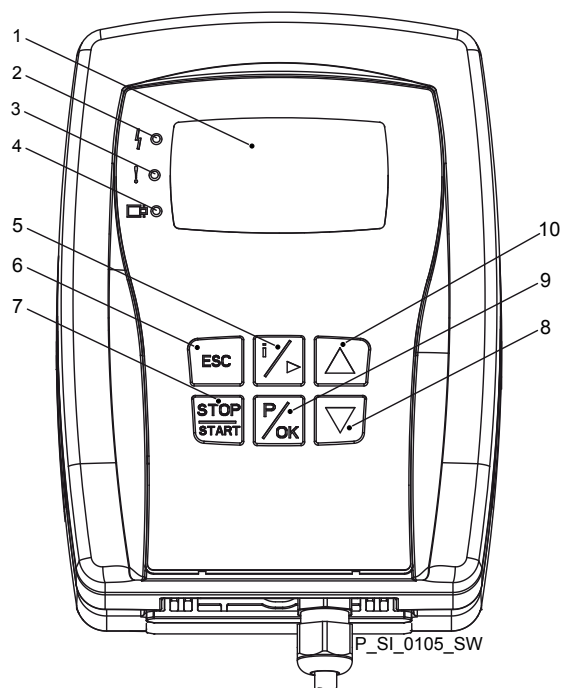

Fig. 5: HMI control elements
- 8 LEDs (as Fig. 5) and status LED CAN bus (external)